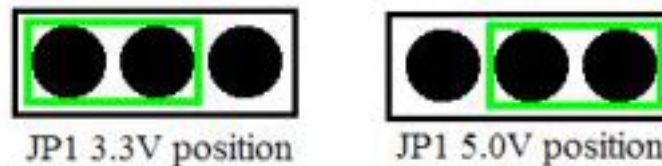

Figure 2
- JP1 power supply voltage (see Figure 2)